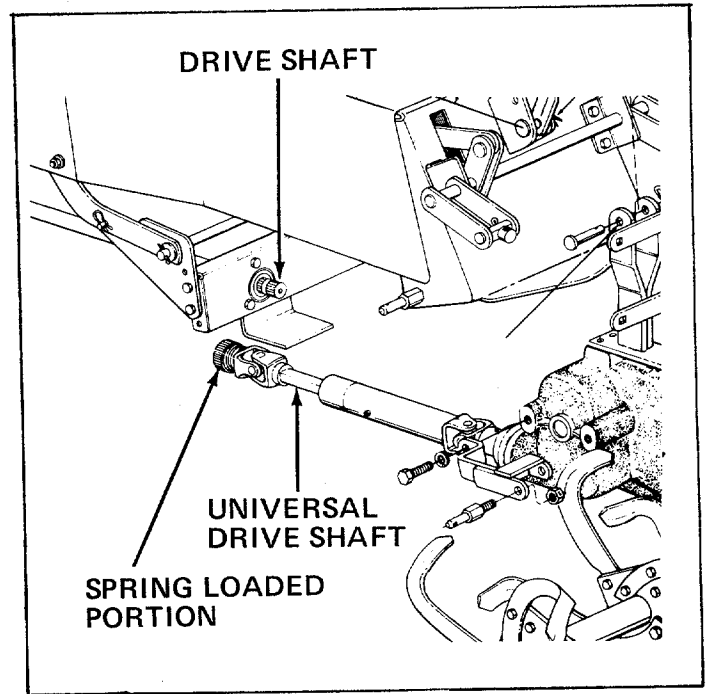

FIGURE 18
- Slide the tiller forward so the universal drive shaft can be attached to drive shaft. See figure 18.
- To hook the universal drive shaft to the drive shaft, pull back on spring-loaded portion of universal, slide over end of drive shaft and release to lock. See figure 18.